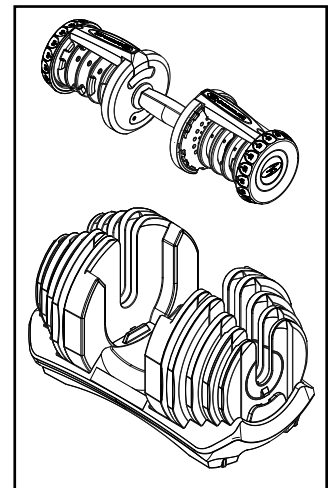

Figure 2
5. With both adjustment knobs set to 4, pull the handle straight up from the dumbbell. This will remove only the handle from the base, and let all of the weight plates stay in the base (Fig. 2). The handle without plates gives the initial weight of 4 kg (10 lbs).